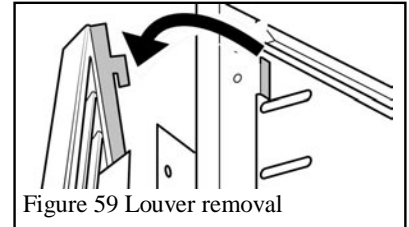
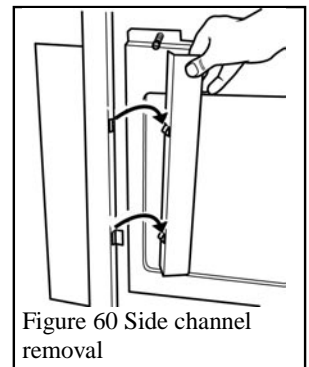

Figure 59 Louver removal
Figure 60 Side channel removal
- **Louver Fronts:** Lift and unhook the top louver – see figure 59. Lift and unhook the two side channels – see figure 60. Open the bottom louver – It does not need to be removed.
- **Louver Fronts:** Lift and unhook the top louver. Open the bottom louver – It does not need to be removed. See figure 59.